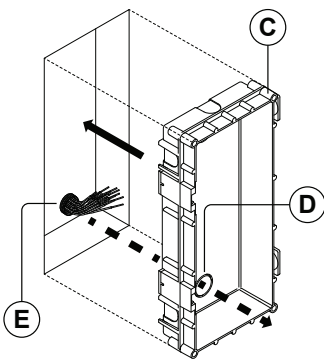

Fig. 61
3. Set the flush box (C) into the hole in the wall feeding the connecting cables (E) through the appropriate flush box hole (D), as shown in **Fig.61**;